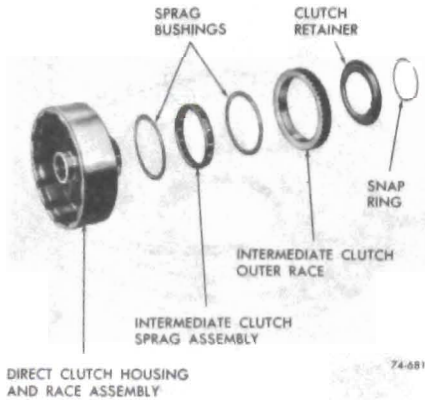

Figure 76-683
1. Inspect sprag assembly for popped or loose sprags. See Figure 76-683.